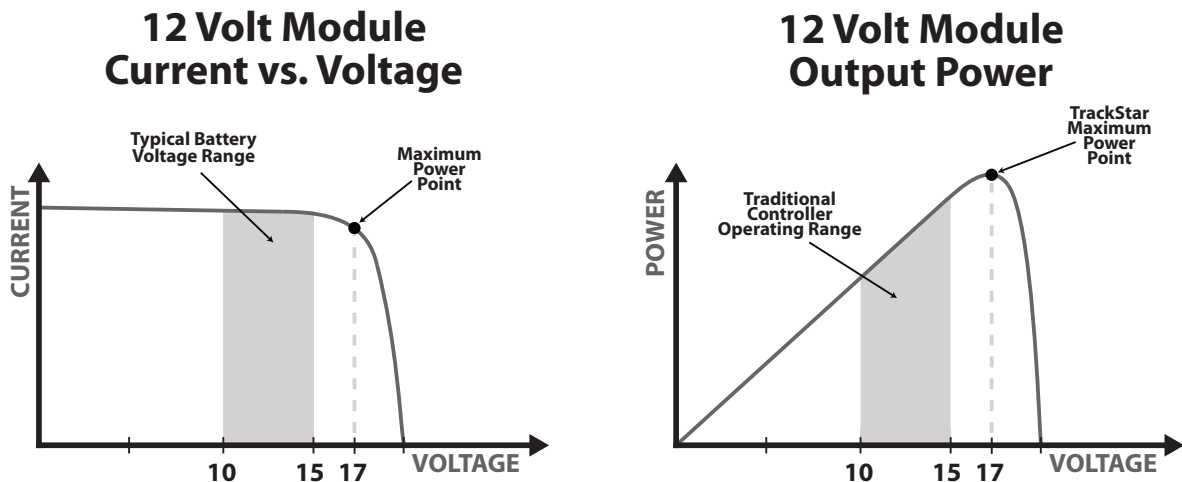

Figure 4-1. Nominal 12 Volt Solar Module I-V curve and output power graph.
Traditional controllers connect the solar module directly to the battery when recharging. This requires that the solar module operate in a voltage range that is usually below the module's  $V_{mp}$ . In a 12 Volt system for example, the battery voltage may range from 10 - 15 Vdc, but the module's  $V_{mp}$  is typically around 16 or 17 Volts. Figure 4-1 shows typical current vs. voltage and power output curves for a nominal 12 Volt off-grid module.
The array  $V_{mp}$  is the voltage where the product of output current and voltage (Amps x Volts) is greatest, which falls on the “knee” of the solar module I-V curve as shown on the left in Figure 4-1.
The TriStar MPPT provides seven (7) standard battery charging settings that are selected with the settings switches (see Figure 4.1 above). These standard charging settings are suitable for lead-acid batteries ranging from sealed (gel, AGM, maintenance-free) to Flooded and L-16 cells. In addition, an 8th charging setting provides for custom set-points using MSView™ PC software. Table 4-1 above summarizes the major parameters of the standard charging settings.